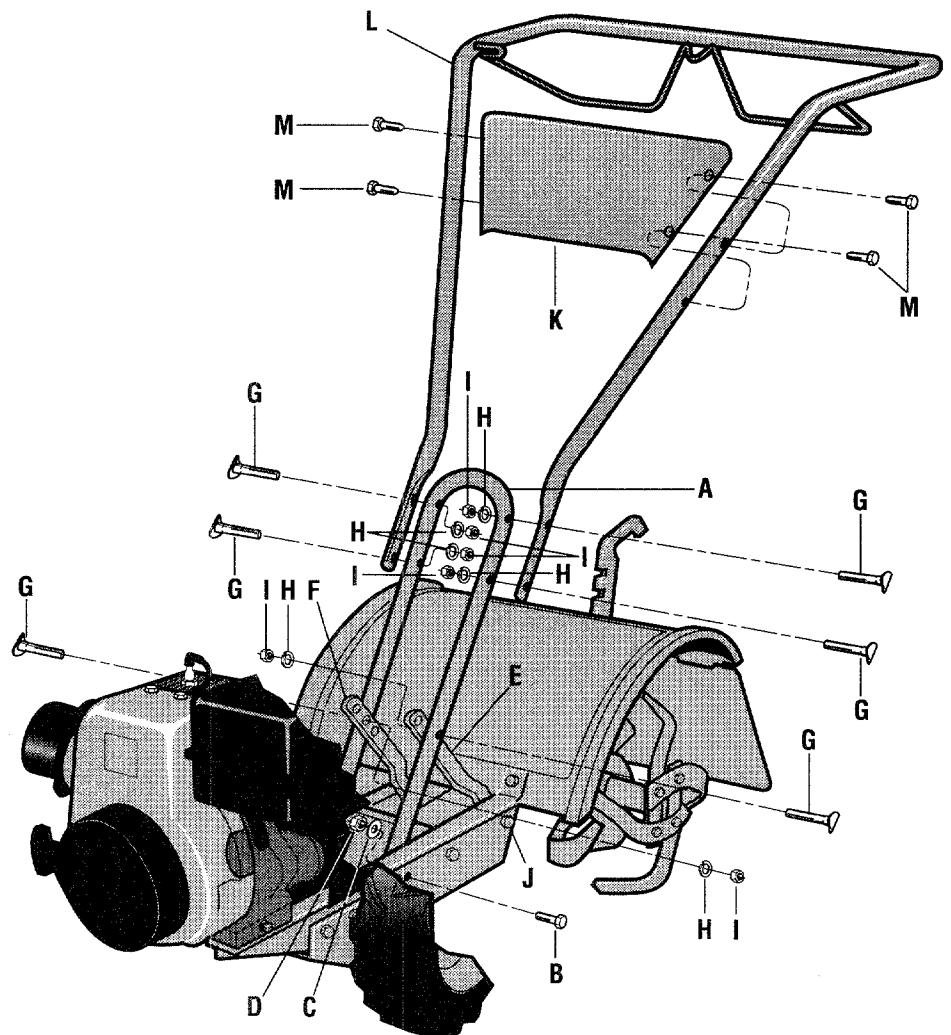

Fig. 2-2: Assemble handlebar.
- Handlebar Support (see A, Fig. 2-2).
- Handlebar Assembly (see L, Fig. 2-2).
- Handlebar Panel (see K, Fig. 2-2).
1. Attach the legs of the handlebar support (A, Fig. 2-2) loosely to the inner sides of the tiller frame using two 3/8"-16 x 3/4" hex hd. screws (B), 3/8" flat washers (C) and 3/8"-16 hex locknuts (D).
2. Using the middle holes in the handlebar support brackets (E and F, Fig. 2-2), loosely attach the support brackets to the handlebar support (A) using two 5/16"-18 x 1-1/2" curved hd. screws (G), 5/16" split lockwashers (H) and 5/16"-18 hex nuts (I). NOTE: If a support bracket will not move, loosen attaching screw (J) and nut.
3. Attach the handlebar panel (K, Fig. 2-2) to the handlebar assembly (L) using four 1/4"-20 x 1/2" self-threading screws (M). Tighten the four screws securely.
4. Attach the handlebar assembly (L) to the handlebar support (A) using four 5/16"-18 x 1-1/2" curved hd. screws (G), 5/16" split lockwashers (H) and 5/16"-18 hex nuts (I). Tighten the four screws securely.